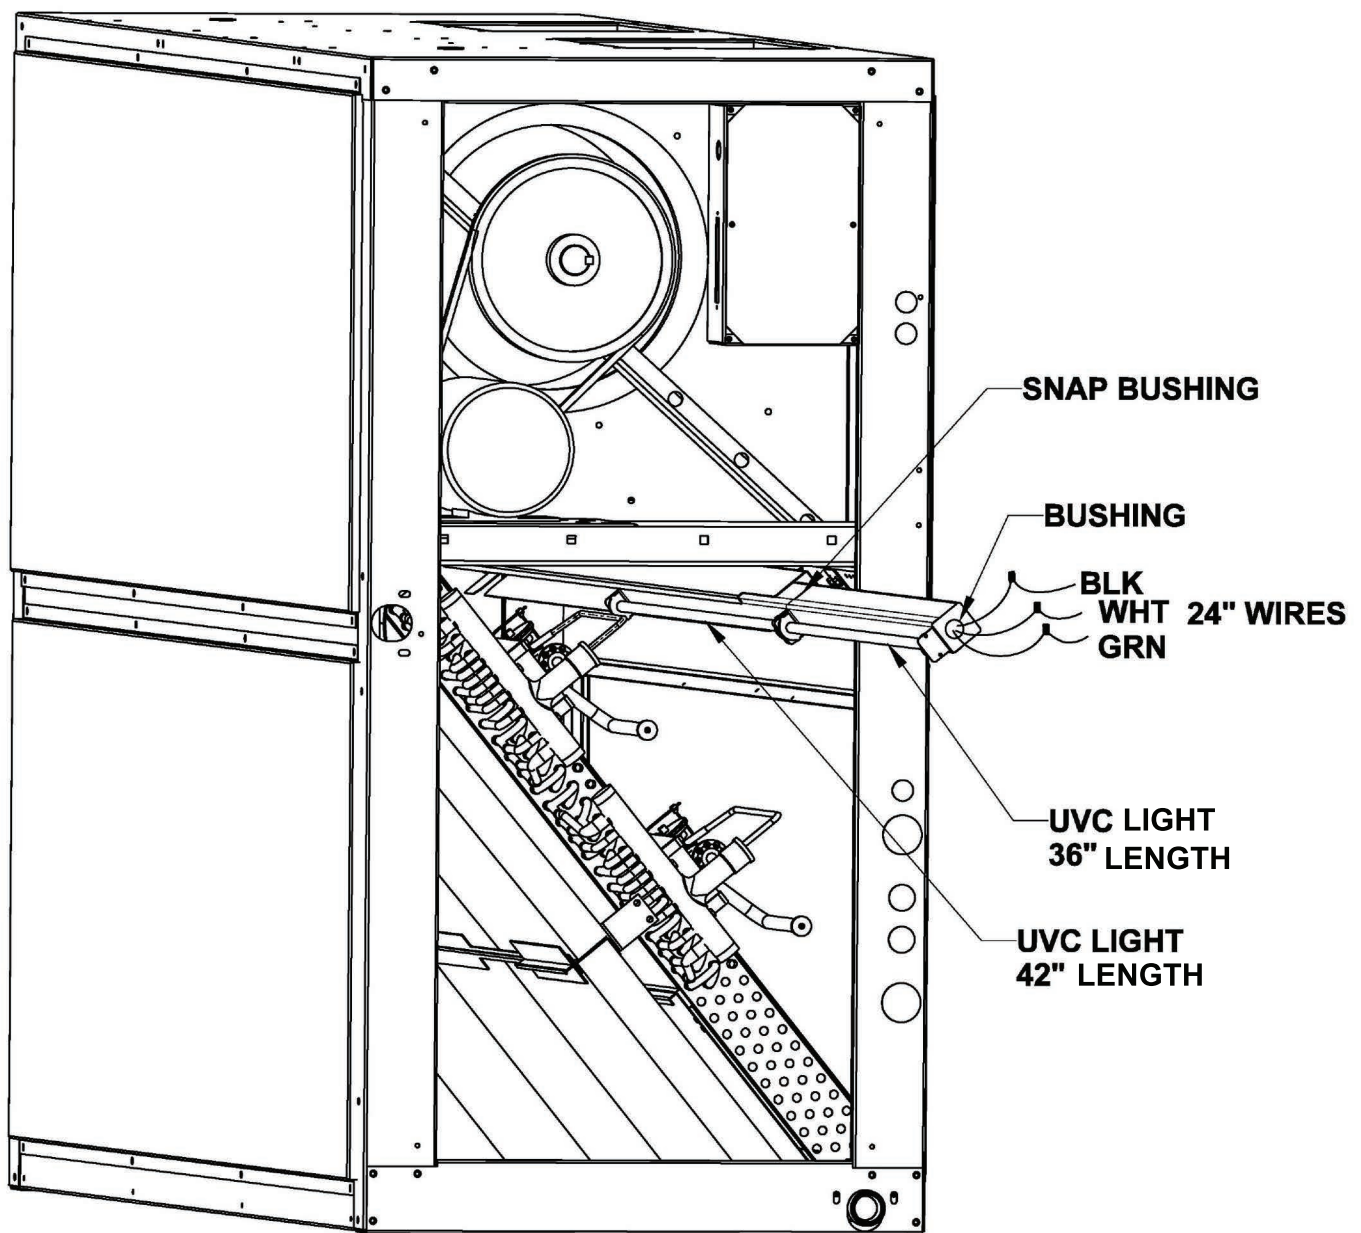

Fig. 6 — Wire Locations
5. For unit size 14-30 (150-336) locate the two UVC Light and connect them using the provided wires (black, white and green) and snap bushing. Connect the 24 in. wires to UVC leads. Slide the two UVC lights into the track. (See Fig. 6 and Table 3).